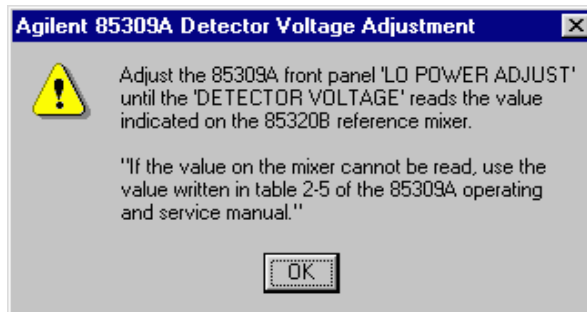

Figure 27 Agilent/HP 85309A Detector Voltage Adjustment
- i. When prompted, perform the Agilent/HP 85309A Detector Voltage Adjustment and click OK to continue. See Figure 27.